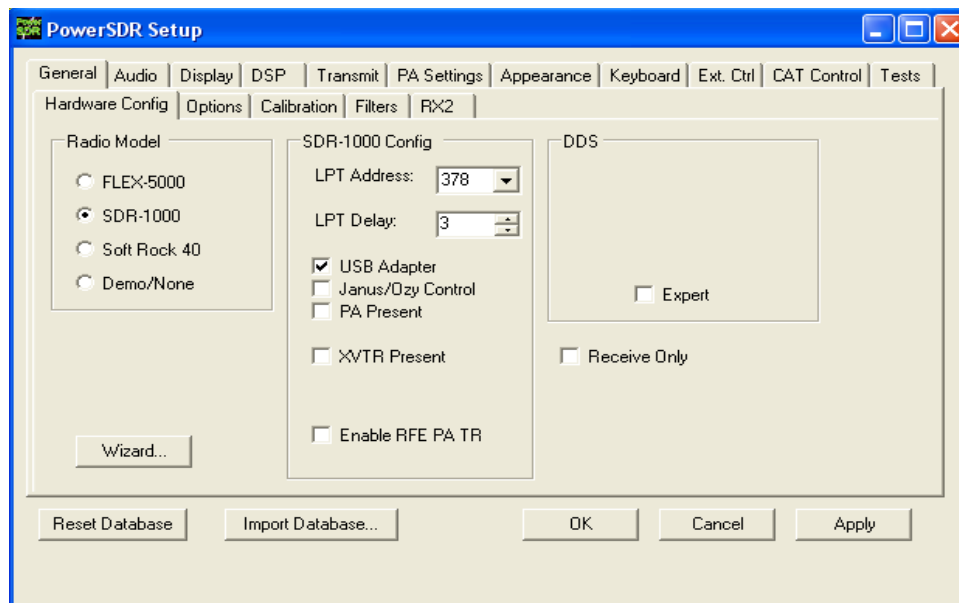

Fig 8: PowerSDR USB setup Screen
- () Plug-in USB-Synthesizer board with Jumper JP1 set. The board should be recognized. Start PowerSDR.exe application and open tab “Hardware Config” and tick the box “USB Adapter” as shown in fig 8 below. Click “Apply” and “Ok”